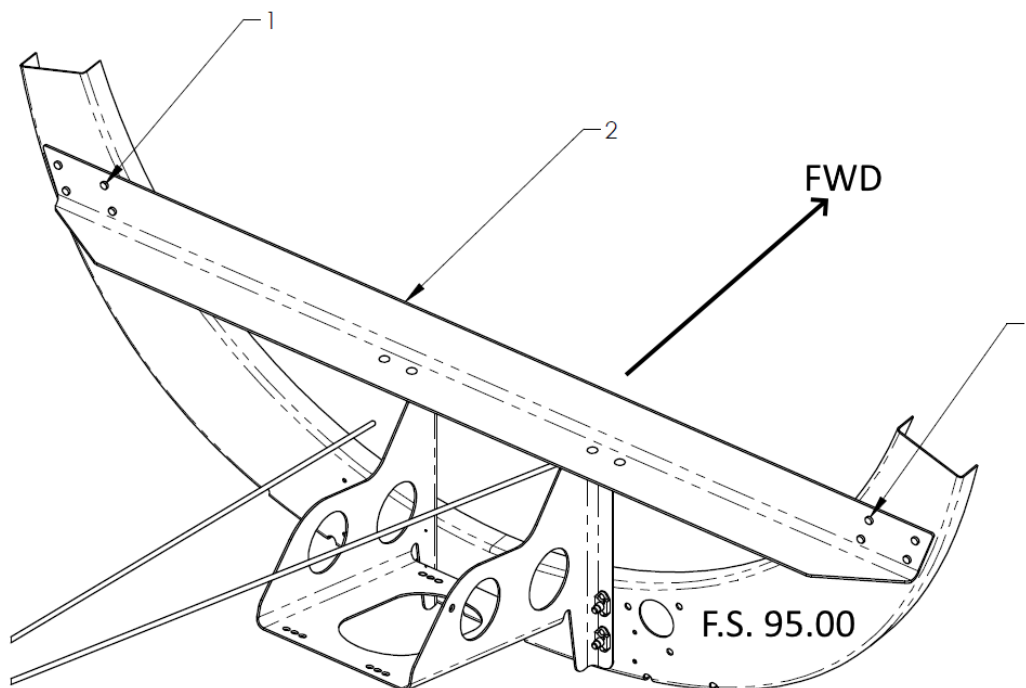

FIGURE C- 2 PITCH SERVO INSTALLATION
1. Install the assembled pitch servo onto the bracket with the servo arm facing up and towards the RH side of the aircraft. Refer to Figures C-2 & Illustrated Parts Catalog Document # 1006907.
4. Clamp the 1006235 bracket to the 1006236 angle piece and to F.S. 95.00. Refer to Figure C-2.